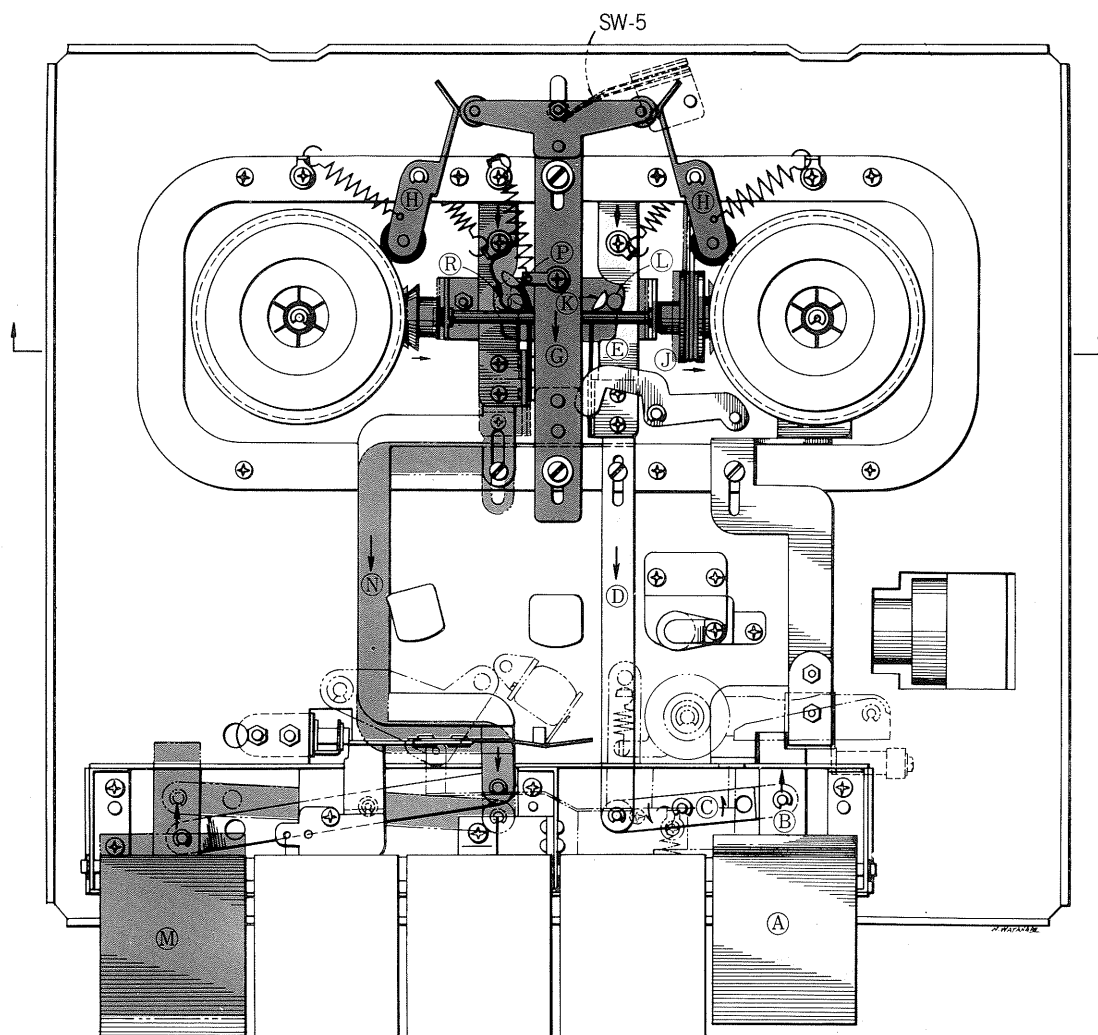

Fig. 4
As shown in Fig. 4 when the Fast Forward Key (A) is depressed, levers marked (B) to (G) operate simultaneously.